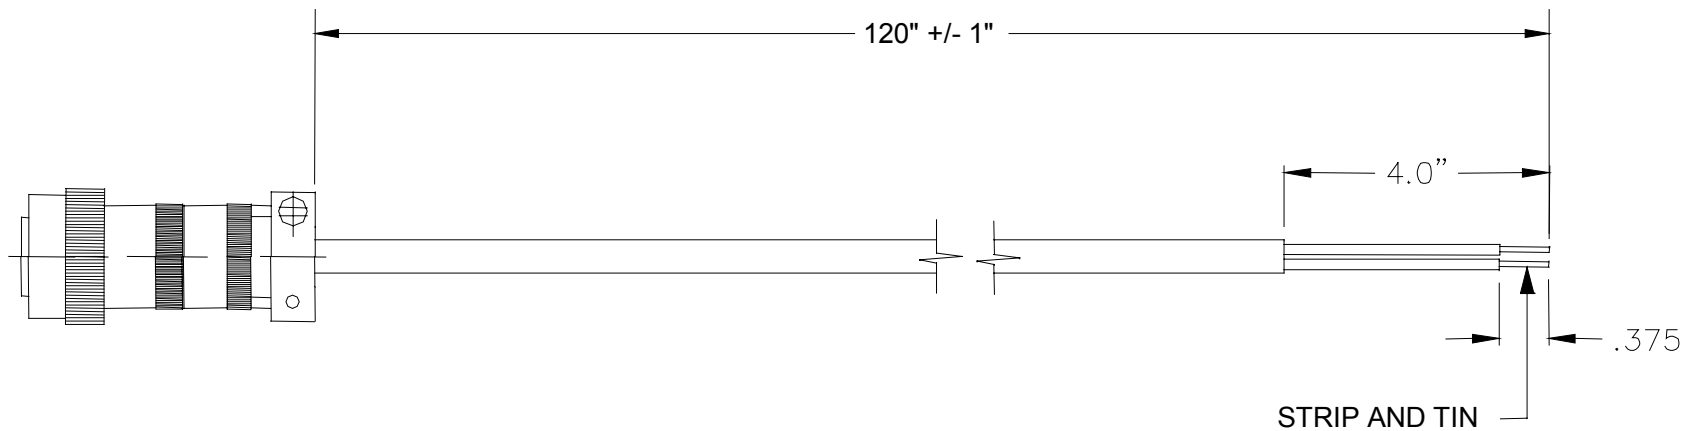

Figure A-1. SMART-24 Power Cable
- Figure A-1. SMART-24 Power Cable